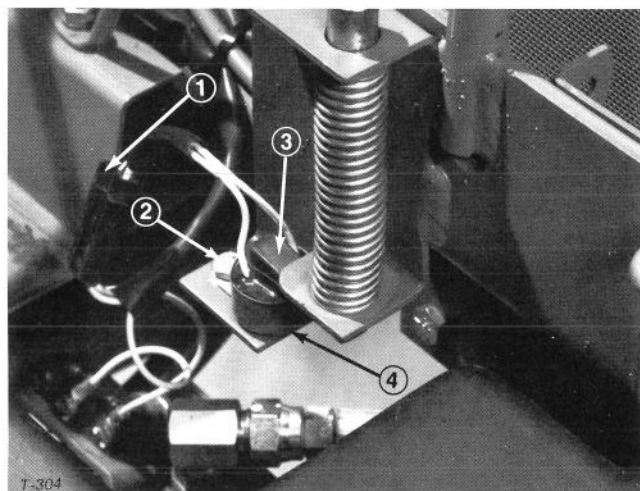

Figure 39
2. (Model 30739 only) Remove (2) flange screws securing sealing plate to frame above fuel tank. Remove sealing plate.
3. Remove instrument cover, disconnect negative battery cable from battery and separate wire harness connectors (Fig. 39). Remove capscrew and locknut (Fig. 39) and lift switch up to disengage locating pin on bottom of switch from hole in mounting bracket.
4. To install new switch, set it on mounting bracket (Fig. 39) and assure locating pin on bottom of switch fits into hole in bracket. Secure switch in place with capscrew and locknut.